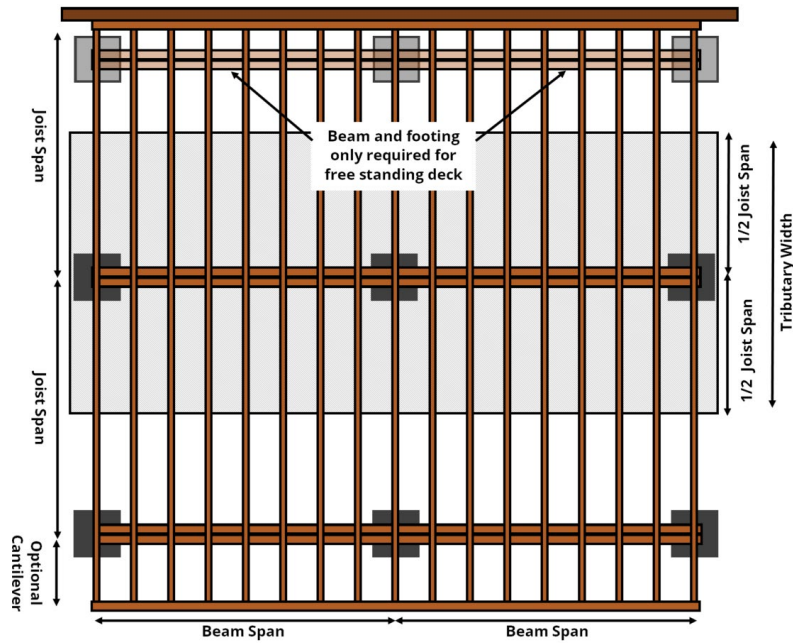
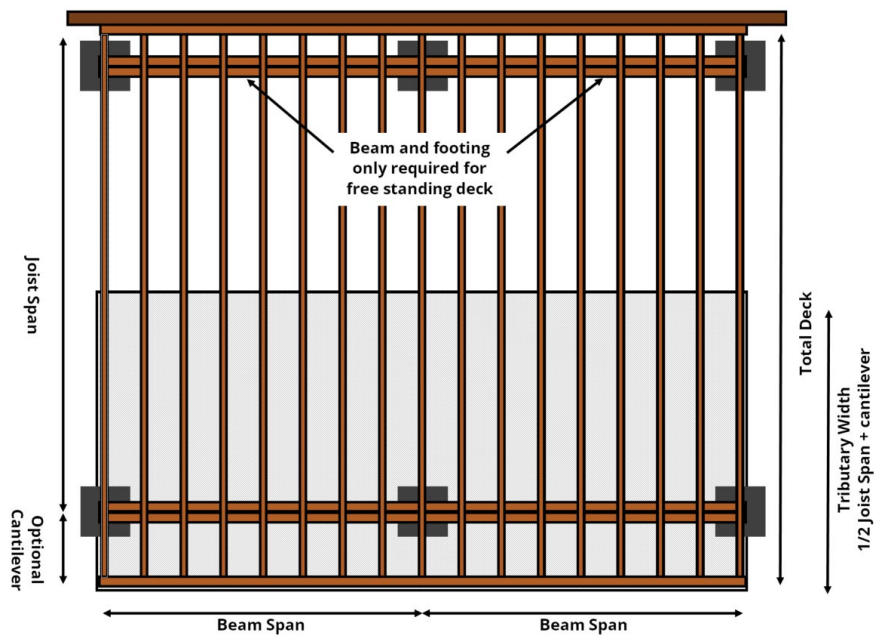

FIGURE 8 - DOUBLE- SPAN DECK PLAN FIGURE
FIGURE 9 - SINGLE SPAN DECK PLAN FIGURE
- Single span decks are framed with joists that have one span between beams (not including overhang) as shown in Figure 9.
- Multi-span decks (maximum of two spans) have joists with more than one span which bear on multiple beams as shown in Figure 8.
Tributary Width = ½ longest joist span₁ + ½ longest joist span₂ + cantilever (See Figure 8 and Figure 9)
Tributary Width (ft) (See Figure 8 and Figure 9)	Longest Beam Span (feet)
- Joist span is measured from the ledger board to center of supporting beam, or between the center of the supporting beams at each end of the joist as shown in Figure 8 and 9.